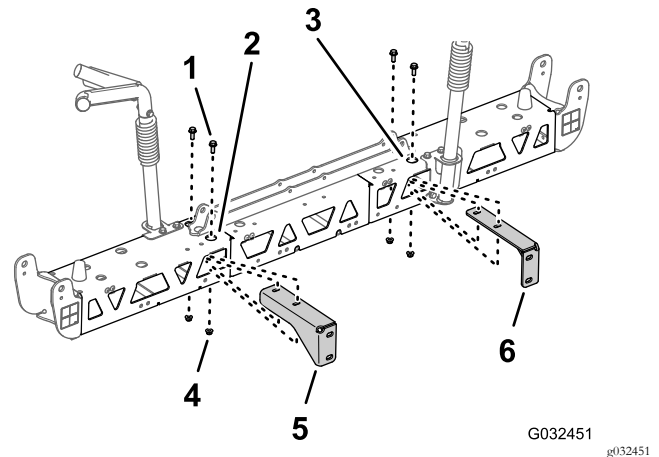

Figure 54
2. Align the holes in the right support bracket to the holes in the right truss frame as shown in Figure 54.
3. Assemble the right support bracket to the right truss frame (Figure 54) with the 2 flange-head bolts (3/8 x 1 inch) and 2 flange locknut (3/8 inch) that you removed in steps 2 and 3 of Removing the Support Brackets from the Center-Spray Section (page 23).
4. Repeat steps 2 and 3 for the left support bracket at the left truss frame (Figure 54).